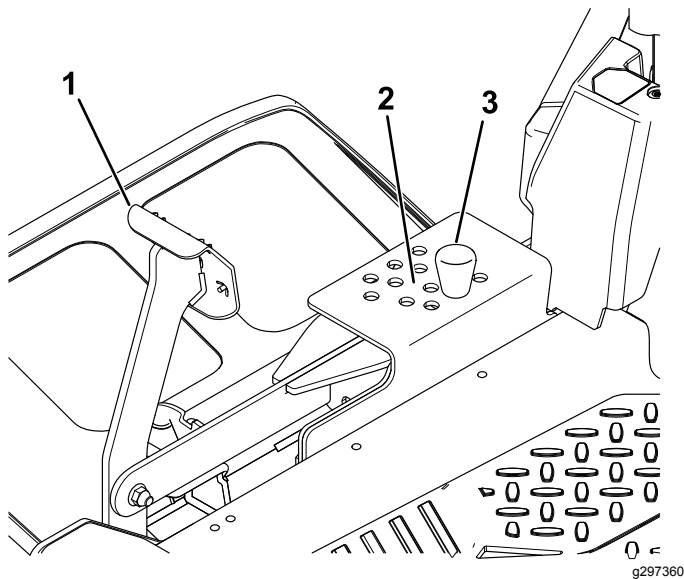

Figure 24
2. To adjust, remove the pin from the height-of-cut bracket (Figure 24).
3. Select a hole in the height-of-cut system corresponding to the desired height of cut and insert the pin (Figure 24).